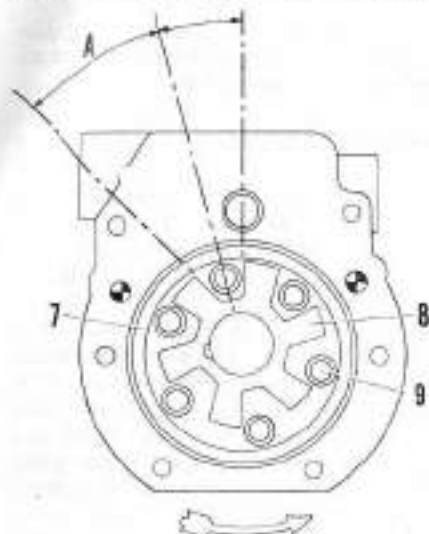
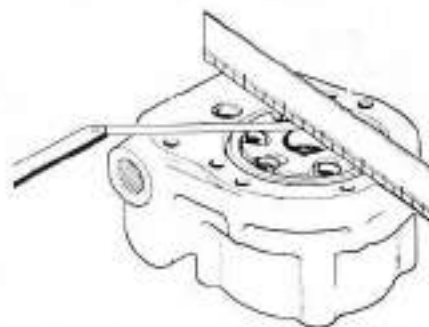

Fig. 23—When installing carrier, the larger angle (A) of roller slot should be toward direction of pump rotation. Refer to Fig. 22 for parts identification.
Fig. 24—Use method shown to check and clearance of carrier and rollers. Refer to text.
Clean and inspect all parts. If pump body or cover is renewed, new ports are fitted with bushings although bushings are cataloged separately. Check cam (7), carrier (8) and rollers (9) assembly as follows: Install cam locking pin (12) in body, install cam so slot in cam engages locking pin and cam seats in pocket, then place carrier in cam so that larger angle (A-Fig. 23) is toward direction of pump rotation. Place rollers in slots of carrier, then using a straight edge across face of body as shown in Fig. 24, measure clearance between carrier and rollers and straight edge. If clearance exceeds 0.002 inch, new cam, carrier and rollers must be installed as an assembly as they are not available separately. Inspect pump shaft and bearing for wear or other signs of damage. If bearing is rough or excessive grease has seeped out, renew bearing. Flow control valve spring (25) should test 8-9 lbs. when compressed to a length of 0.82 inch.
41. Reassemble pump as follows: Install new oil seal (14-Fig. 22) in body with lip toward inside and lubricate lip of seal. Press bearing (15) on shaft (11) and install shaft and bearing in pump body. Install locking pin (12) in body, then align slot in cam (7) with pin and seat cam in pocket. Place drive pin (10) in slot of shaft (11), then install carrier (8) so widest angle of roller slots are toward direction of pump rotation as shown in Fig. 23. Install rollers (9-Fig. 22) in slots of carrier. Install "O" ring (6) in groove of body, then with "O" ring (5) in place, install cover (3) and tighten retaining cap screws evenly to 18 ft.-lbs. torque. Install mounting bracket (16) and bearing retainer (17) and tighten retaining cap screws securely. Install pulley key and pulley and tighten pulley retaining cap screw to 20 ft.-lbs. torque. Insert spring (25), flow control valve spool (stem end out), then with new "O" ring (23), install plug (22) and tighten securely.